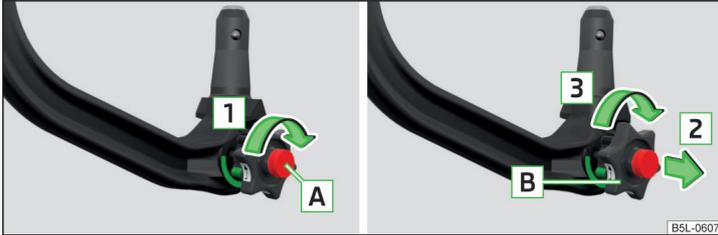

Fig. 148 Lock unlock / pull out hand wheel and turn
- Turn the key **A** in direction of the arrow **1** to the stop » Fig. 148.